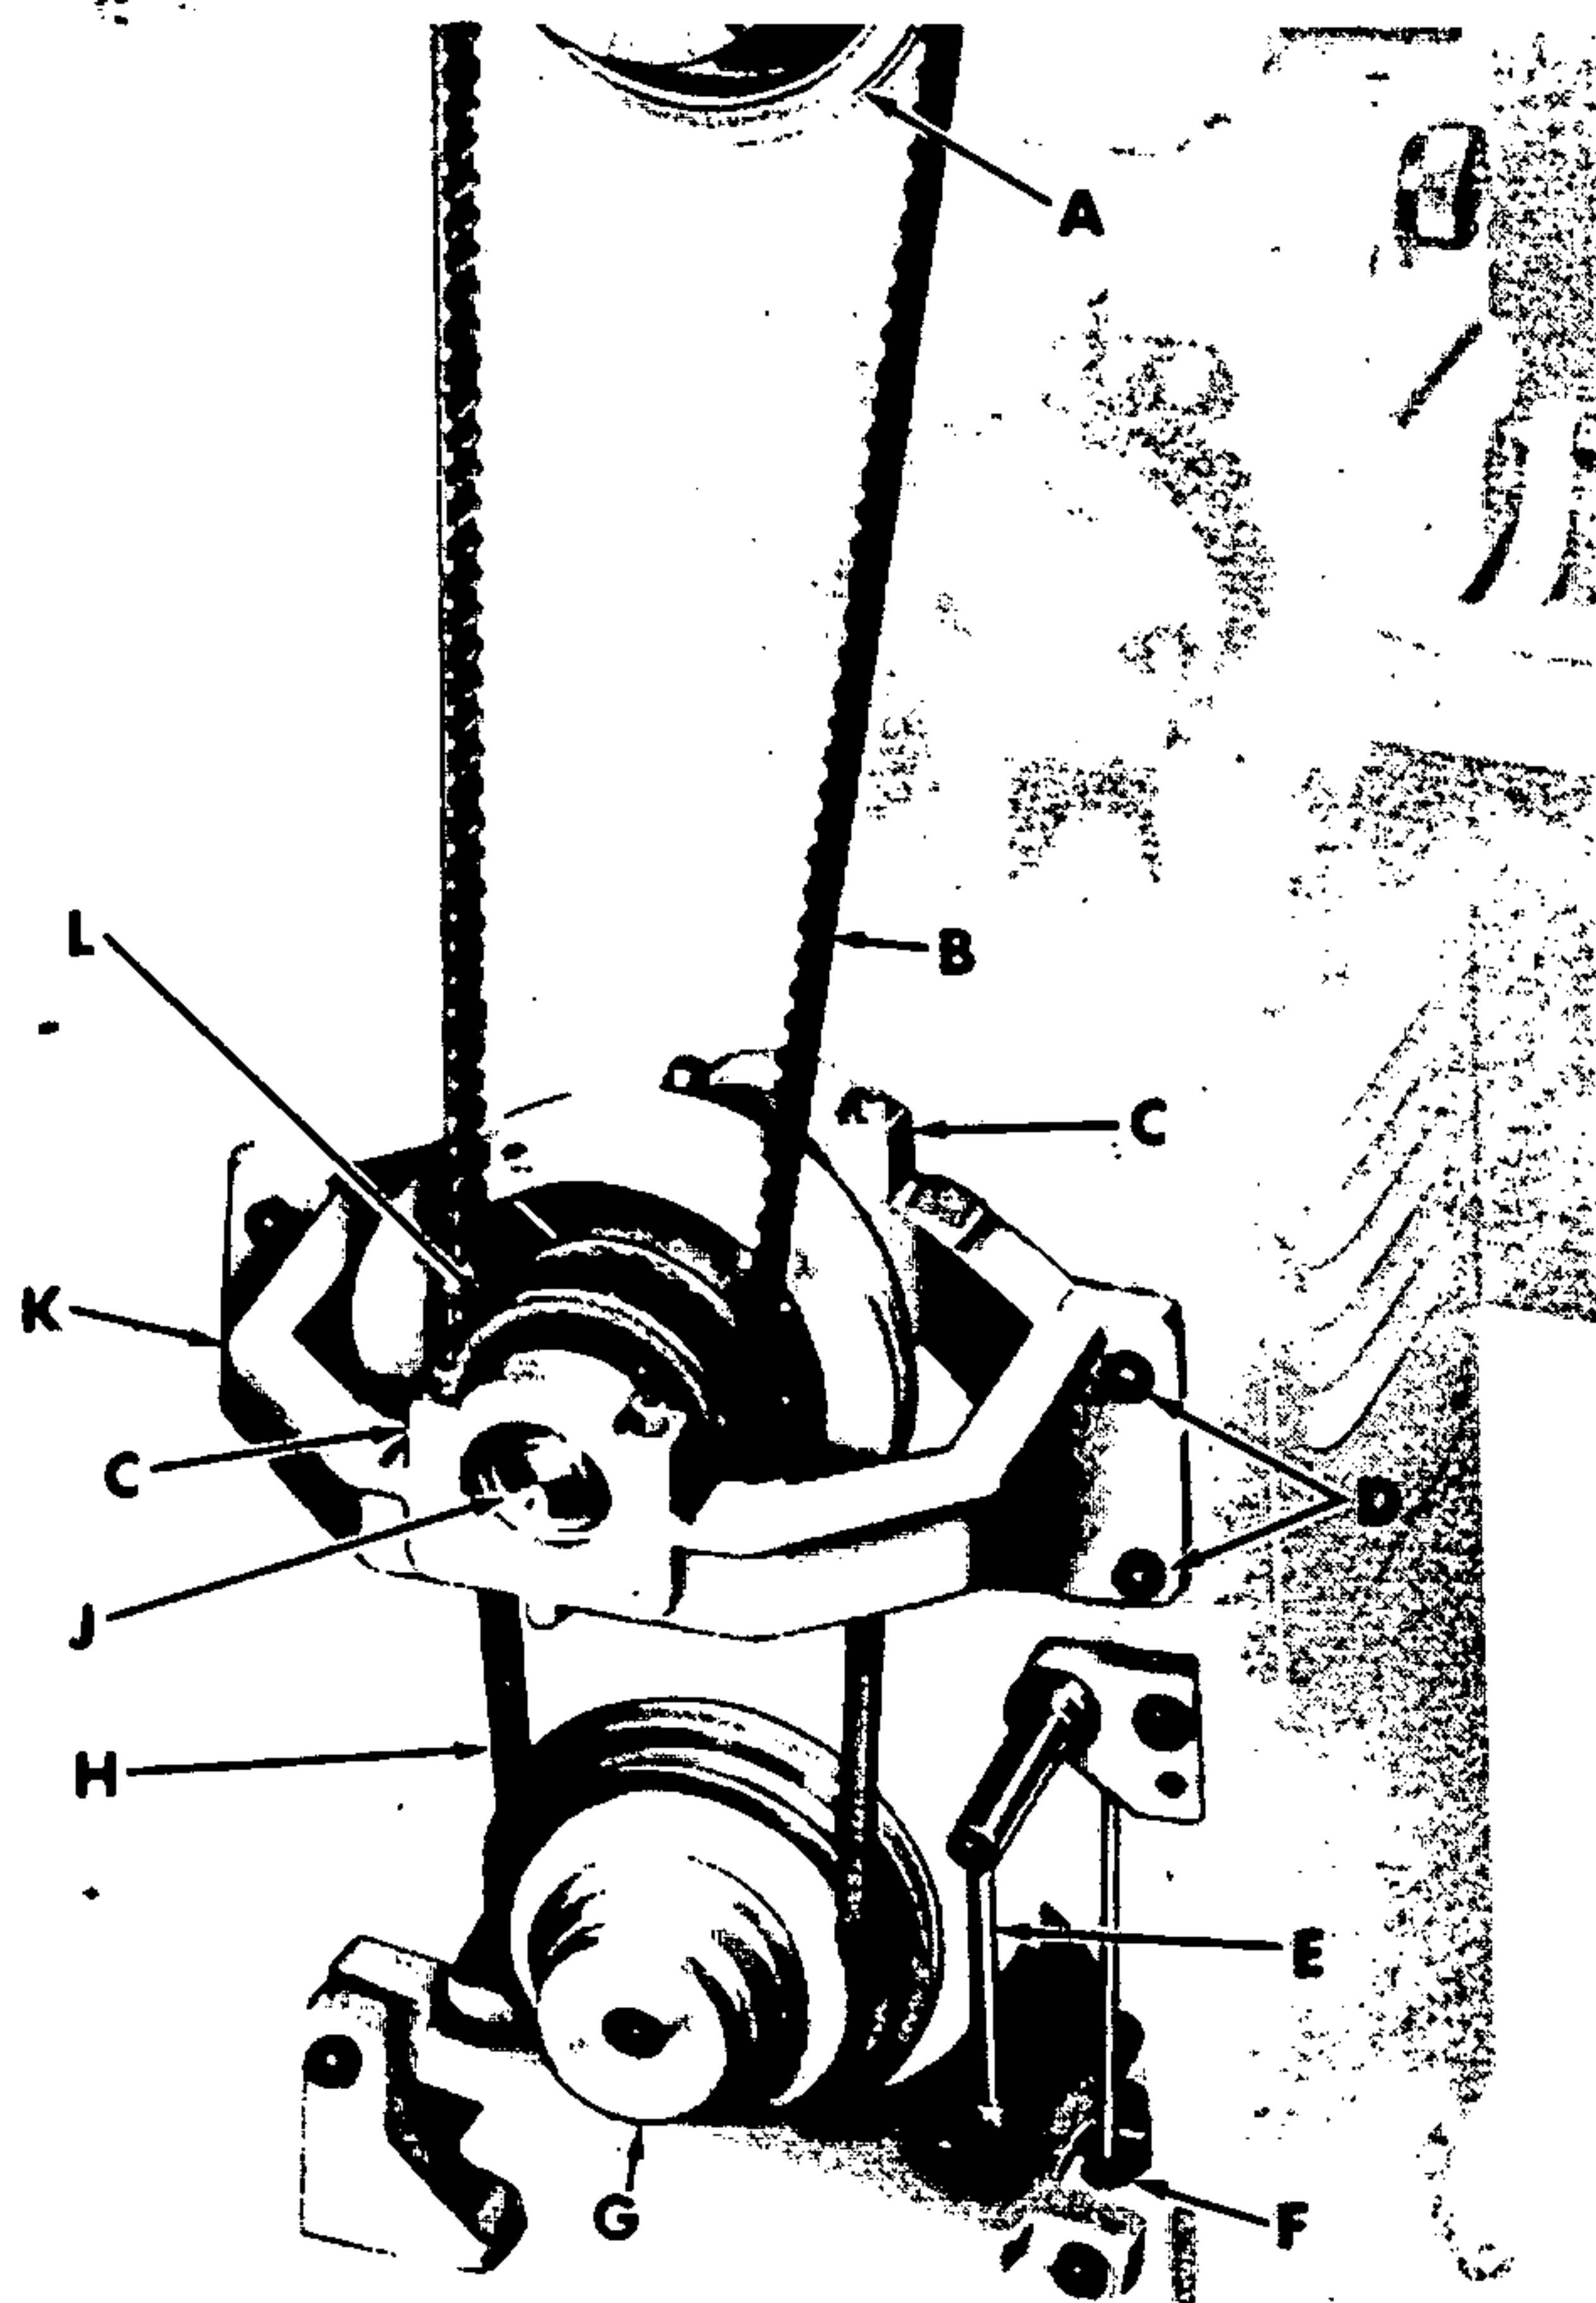

Figure 21
2. Raise belt tension lever (E, fig. 21).
3. Remove belt (H) from motor pulley (G).
4. Remove four hex nuts and countershaft (K) from mounting studs (D). Raise countershaft slightly and slip timing belt (B) off spindle pulley (A).
6. Remove bearing caps (C), snap rings and countershaft spindle (J) from bracket (K).
7. Remove timing belt from countershaft pulley (L) and replace with new timing belt.
8. Install spindle in countershaft bracket and secure in place with snap rings and bearing caps (C). **IMPORTANT:** Make sure motor belt is in place before installing bearing caps.
9. Position countershaft so timing belt (B) can be slipped on spindle pulley (A).
10. Realign countershaft assembly on the four mounting studs (D), then tighten the four hex nuts.
11. Install and retension motor belt (H).
2. With belt tension lever (E, fig. 21) engaged (down position), adjust nuts (F) until proper tension is obtained.